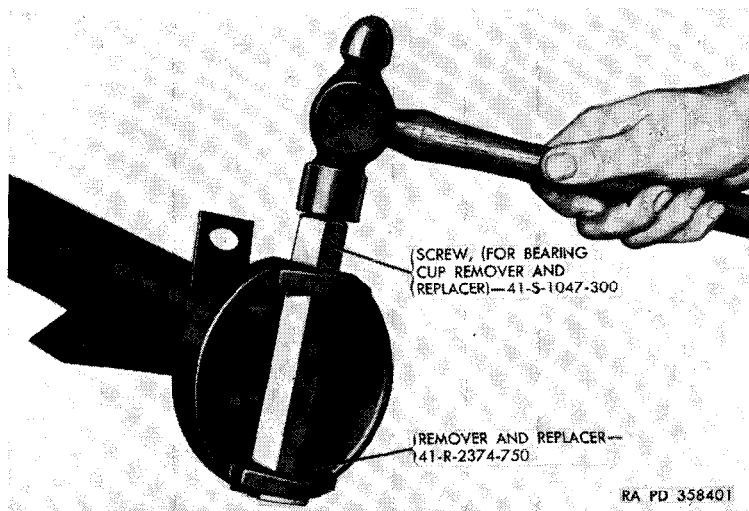

Figure 74. Removing king pin bearing cup.
d. *King Pin Bearing Cup Replacement.* Working through one of the king pin bearing cups (N and P, fig. 57) and using remover and replacer 41-R-2374-750 and screw 41-S-1047-300, remove the opposite king pin bearing cup (fig. 74). Turn the gear carrier housing over and remove the other king pin bearing cup. To install new king pin bearing cups, place the king pin bearing cup in position and, using the same remover and replacer, seat cup until it is flush with the shoulder (fig. 75).